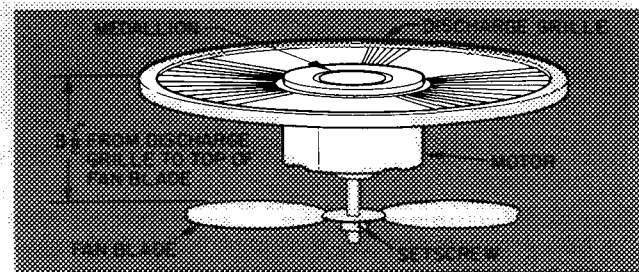

Fig. 10 — Outdoor Fan Position
Outdoor Fan Adjustment — Required fan position is shown in Fig. 10. Adjust fan by loosening setscrew(s) and moving fan blade up or down.
7. Reassembly is reverse of above procedure. Make sure fan is positioned correctly as in Fig. 10.